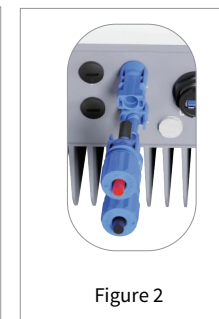

Figure 2
- PV input connection: Make sure the polarity (+/-) connection is correct when connecting the inverter and battery, see Figure 2.